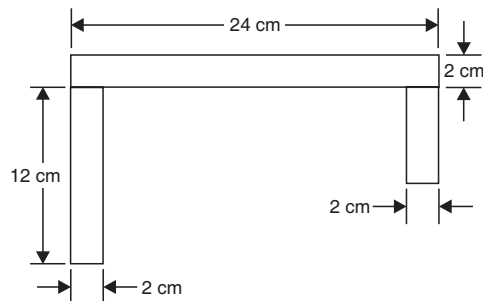

Fig. 5.35
4. Calculate the second moment of area of the built up section shown in Fig. 5.35 about XX and YY, XX and YY are the axes passing through the centroid of the section. [Ans.  $I_{xx} = 1152.35 \text{ cm}^4$ ;  $I_{yy} = 6463 \text{ cm}^4$ ]